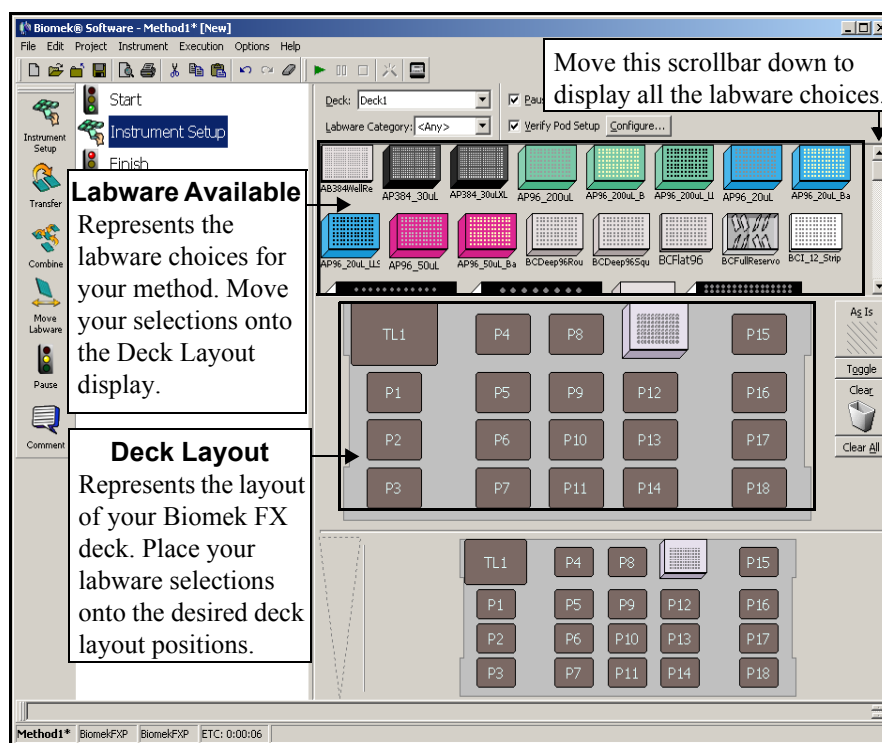

Figure 1-5. Instrument Setup step configuration
3. Click the **Instrument Setup** icon to insert the step. The **Instrument Setup** configuration appears (Figure 1-5).